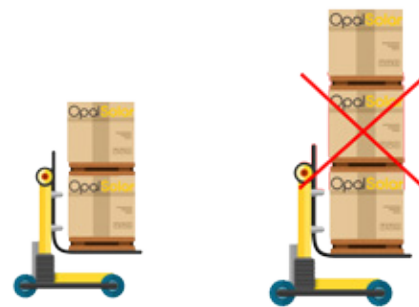

Fig.01 No more than two boxes should be stacked
- Do not stack on more than 2 packing boxes (maximum height of 2 pallets). See Figure 01.